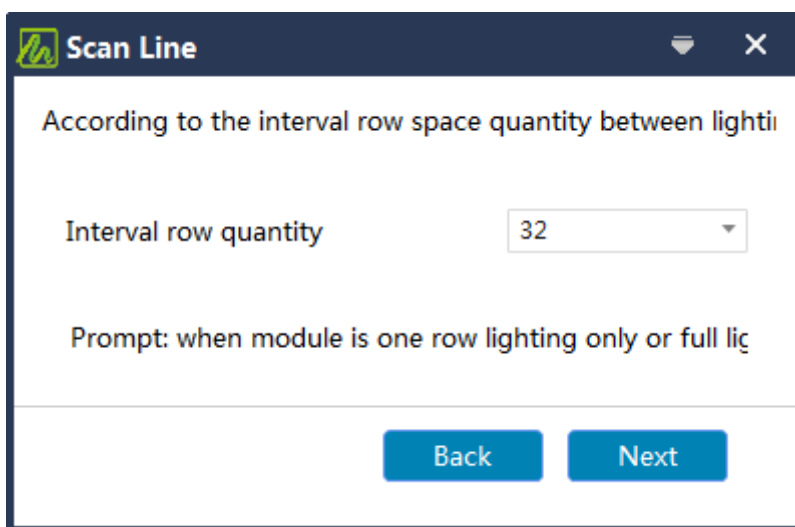

Figure 4-2-2 Normal Mode- Select Scan Line
(2) Click “Next” to check the “data polarity” and “OE polarity”, normally they will be set by default, so just all the way click “next” until you get to the “ Scan Line” Interface. Select the scan line according to the actual display of the current module, as shown in Figure 4-2-2.